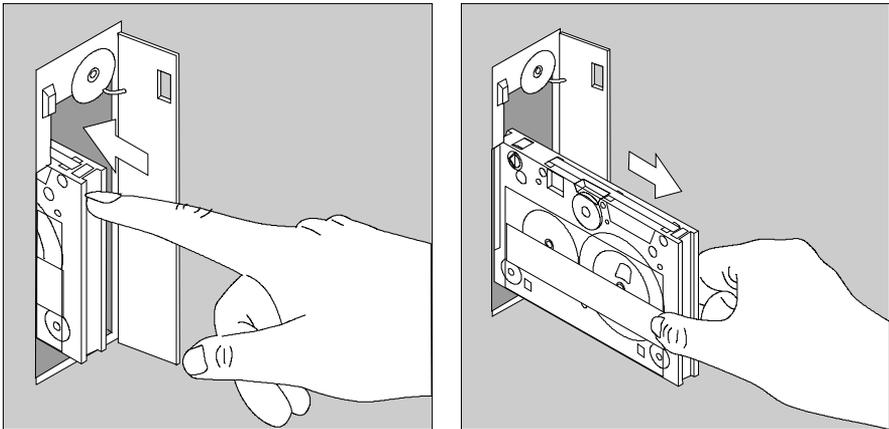

Figure 40: Inserting and removing a ¼ inch magnetic tape cassette
- ▶ Remove the cassette from the drive (figure 40 on page 130).